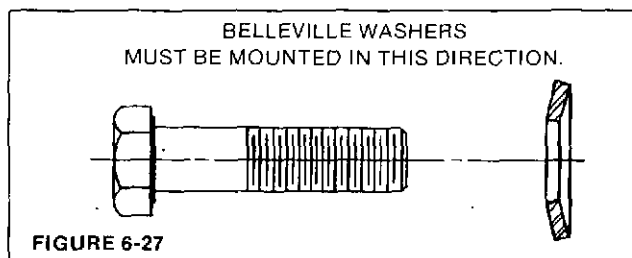

FIGURE 6-27
4. To reinstall, slide the fan on the shaft making sure the fan mounting surface is toward the drive hub. Align reference marks (this is important for assembly balance) and mount the fan to the drive hub with the capscrews and belleville washers. (Figure 6-27.) Torque the capscrews to 60 ft-lb. (81 N-m).